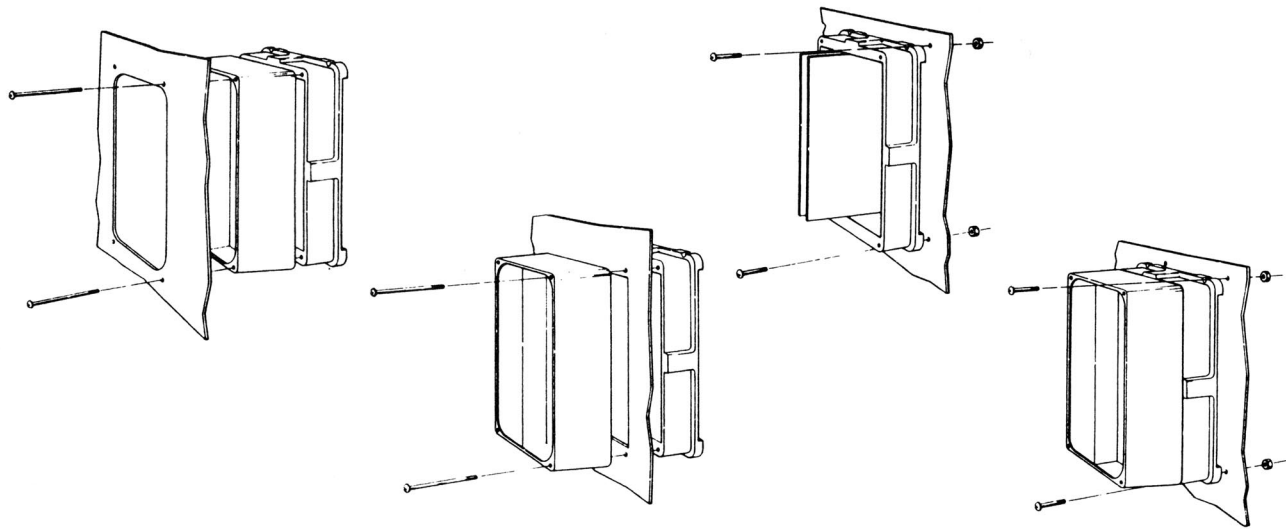
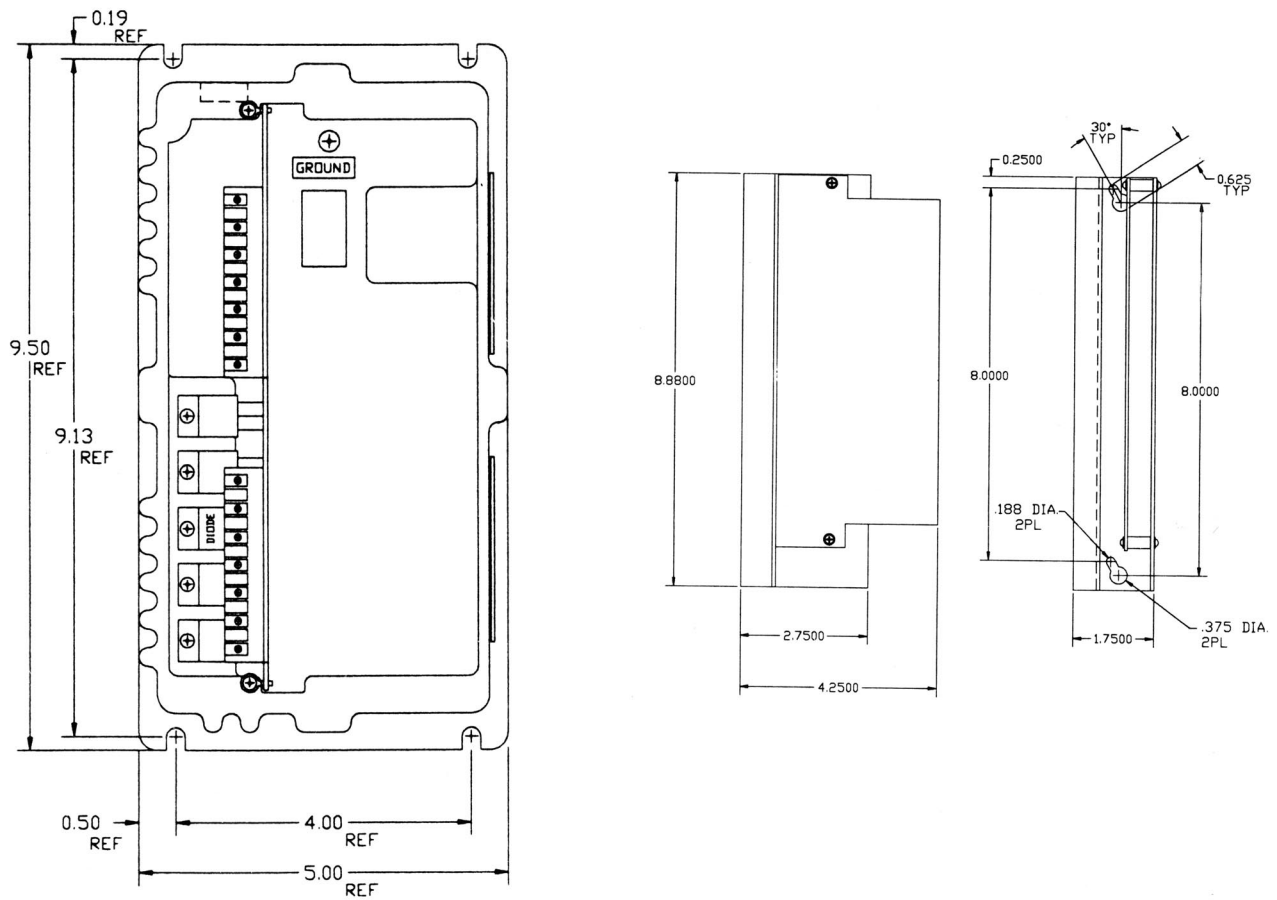

FIGURE 1. BETAplus CONTROLLER MOUNTING CONFIGURATIONS
FIGURE 2. MOUNTING DIMENSIONS, BETAplus
6. The controller may be surfaced mounted or panel mounted as shown in Figure 1, page 9. Mount the controller. Mounting dimensions are shown in Figure 2, page 9.